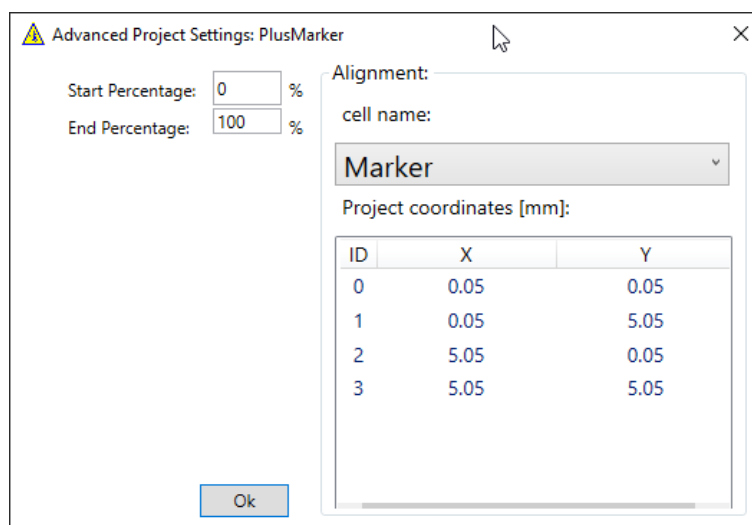

Figure 3-40 Project advanced window
When a Project file is imported or opened for the first time, or, after selecting it for a project, when you select **Advanced**, the Advanced Settings window pops up, see **Figure 3-40 below**.
1. Select the **Start Percentage** and **End Percentage**, see **Figure 3-40 above**. This determines the part of the project in x-direction that will be exposed. Normally, this is 0% and 100%.